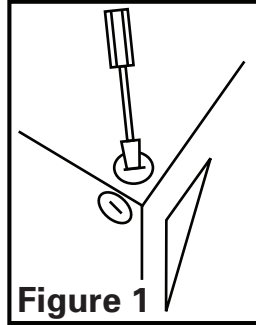

Figure 1
3. Select the most convenient electrical knockout and remove using a straight-blade screw driver (Figure 1).